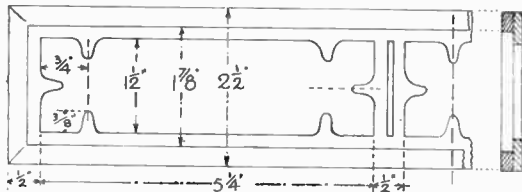

Fig. 5—The fretted panel decoration
The fretted overlay of Gothic design is made up in two layers. First there is a layer of $\frac{1}{4}$ in. thick wood cut to the outline of the panel (I). Pencilled on this is the fretted design marked in to the measurements given in Fig. 5.
Finally, as a kind of border to the fretted panels, cut and glue on four mitred strips to each, as seen in Fig. 5, and at the cross section at the right hand of this diagram. Take care in the